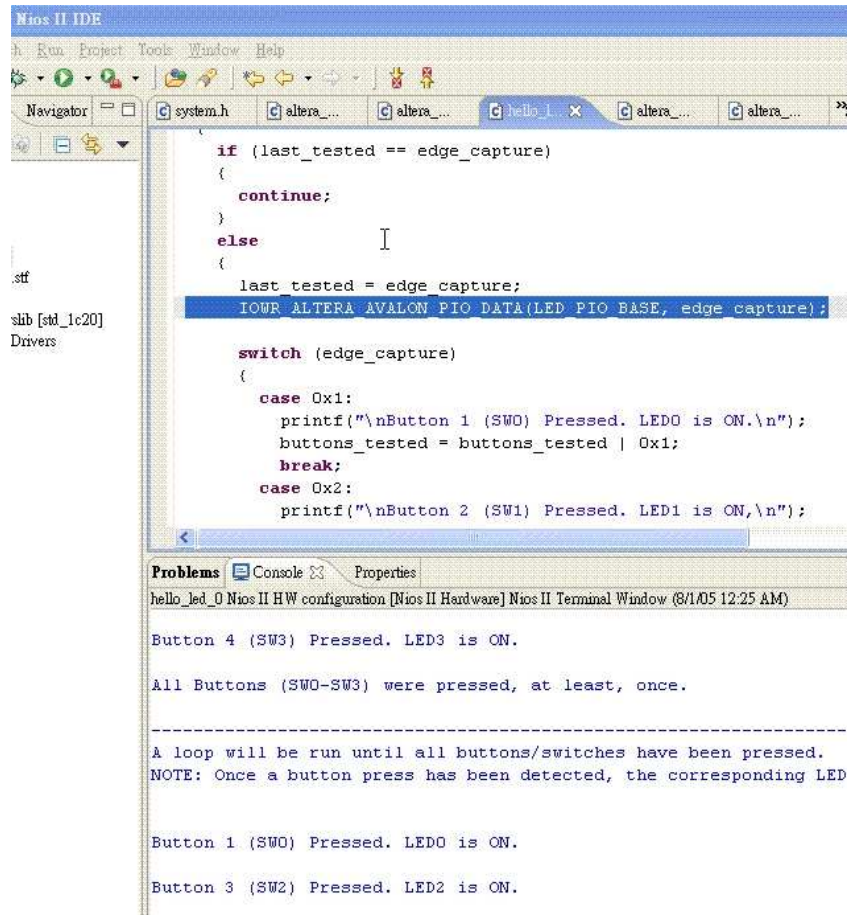

Figure 11.4. The results of running the example
5. Once the NIOSII is running on TREX C1 board, you can press the push buttons (KEY0 – KEY3). The corresponding LED0 – LED3 will be turned on according to the push button status. NIOS II IDE debugging window will also show the information on which button is pressed, as shown in Figure 11.4.